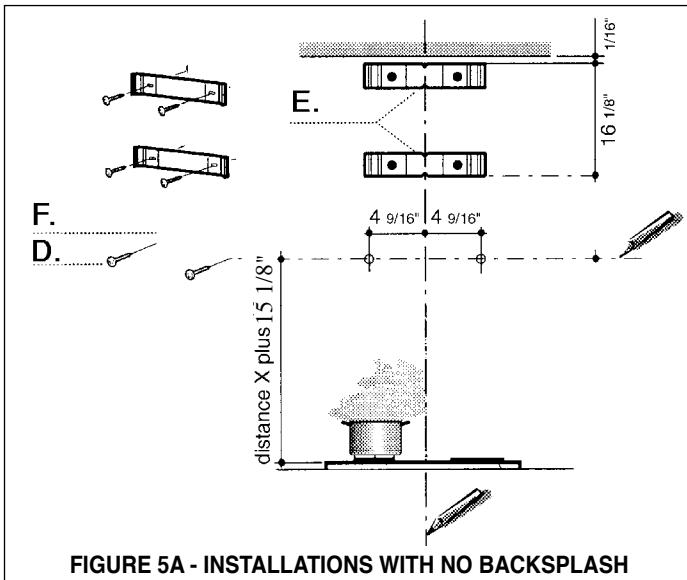

FIGURE 5A - INSTALLATIONS WITH NO BACKSPLASH
3. Based on your ceiling height and/or personal preference, determine the distance you would like between the bottom of the hood and the cooktop (**distance X in FIGURE 4A OR 4B**). Draw a horizontal line the height of **distance X plus 15 1/8"** (as indicated in **FIGURE 5A - INSTALLATIONS WITH NO BACKSPLASH**).
4. Place the **UPPER CHIMNEY MOUNTING BRACKET (E)** on the wall as shown **1/16"** from the ceiling, aligning the center notch with the vertical center line. Mark the wall at the centers of the holes in the bracket.
5. Place the **LOWER CHIMNEY MOUNTING BRACKET (E)** on the wall as shown at **16 1/8"** below the upper bracket, aligning the center notch with the vertical center line. Mark the wall at the centers of the holes in the bracket.
6. Install the **CHIMNEY MOUNTING BRACKETS (E)** on the wall using the **MOUNTING SCREWS (D)** provided.
7. For the most secure installation, the **MOUNTING SCREWS (D)** which mount the **CANOPY SECTION (A in FIGURE 1)** should be installed into wood. Mark the wall along the horizontal line **4 9/16"** in from the center line on either side (as indicated in **FIGURE 5A or 5B**) and install the **MOUNTING SCREWS** into the wall leaving about **1/4"** gap between the wall and the head of the screw.